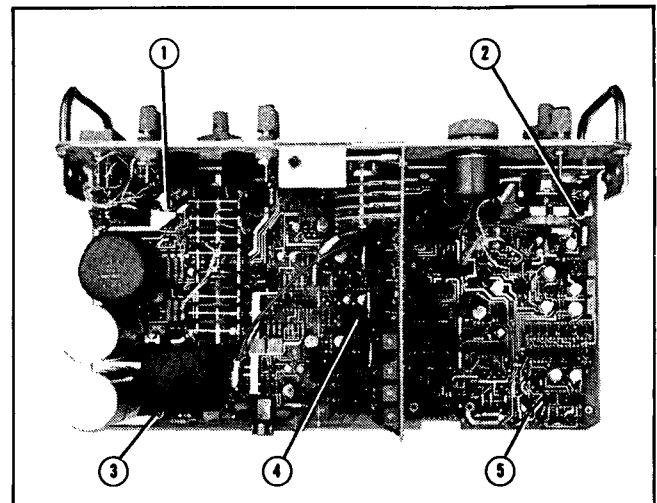

Figure 5-16. Shield Removal.
- b. Turn the unit over to obtain access to the component side of the A3 board and remove the five phillips head screws shown in Figure 5-16. The shield should now be loose and can be easily removed.